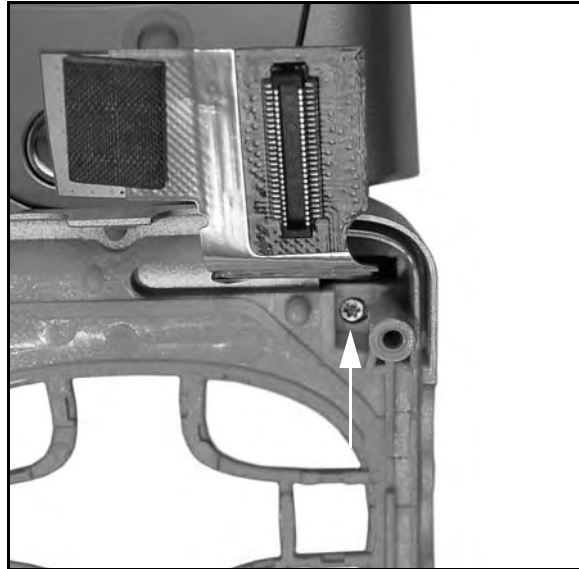

Figure 7-13.
5. Locate the left knuckle T4 retaining screw by viewing from the back of the front housing at the Flex ribbon slot. Remove the T4 screw. (see Figure 7-13). Set aside.